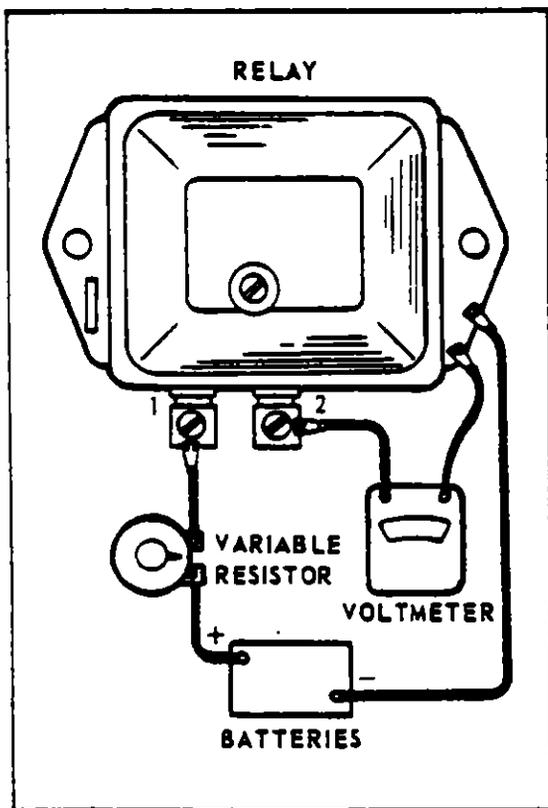

FIGURE 9-27. RELAY TESTS
- b. Connect this resistor with a voltmeter and two 12 volt batteries in series to the relay as shown in Figure 9-27. Connect the negative battery post to the relay base, and the positive battery post to the variable resistor.